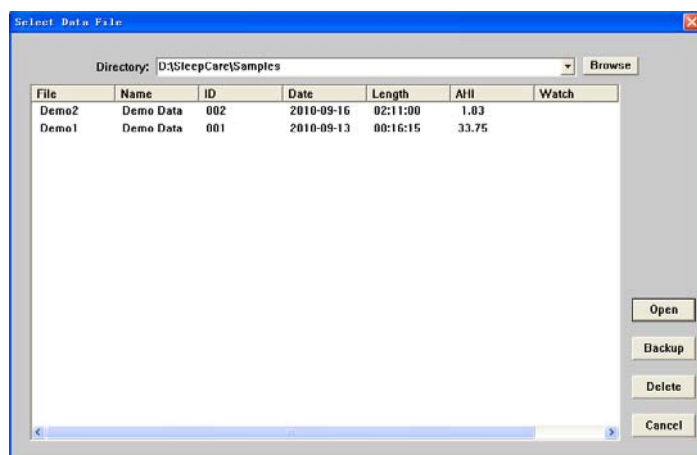

Figure 2-15 “Select Data File” dialog box
① In the main interface of data analysis software, choose "Open" in "File" of the menu bar, the system will enter the sleep data management interface. The screen shows the saved data and its related information in the hard disk (Figure 2-15). The desired data can be easily found by different orders in this interface.
② First of all, find out the route and catalog of the sleep data by using the "**Browse**" button. Then all the files are listed, with the information such as file name, patient name, serial number, recording date, record length, person on duty and data version etc. The files' order can be changed by clicking on the corresponding classification column.
③ In the lower right of the interface are the function keys such as **Open**, **Backup**, **Delete** and **Cancel**. Click the file name to select the file, and then press the appropriate function key to achieve data playback, data backup and data deletion.
④ Selecting "Cancel" button in the lower right of the interface can return to the main interface of data analysis software.